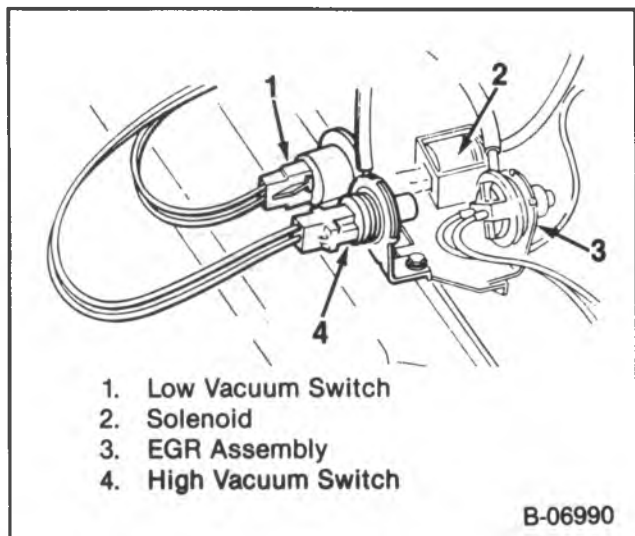

Figure 31 — Diesel EGR High Vacuum Switch
2. The noise is being generated by the high vacuum switch in the EGR assembly (figure 31).